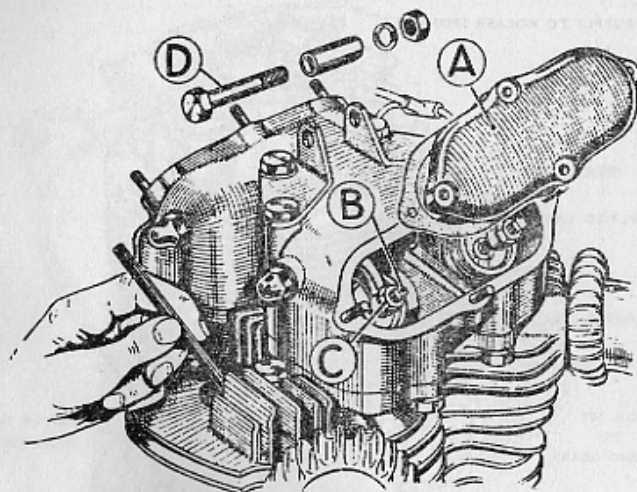

Fig. 4. Tappet Adjustment and Ignition Setting.
Remove the tappet inspection covers (A) Fig. 4, and rotate the engine until one inlet valve is fully open. This is the correct position for checking the other inlet valve clearance.
The adjusters which are of the screwed type, are on top of the rockers immediately above the valves. The clearance is measured by means of feeler gauges inserted between the valve stem and the screw (B) Fig. 4.
the tank, and is held in position by two nuts. The central tank locking bolt can then be removed after the rubber plug in top of the tank is pulled off. Next detach the high tension leads and the sparking plugs. Disconnect the engine steady stay by unscrewing the bolt (D), Fig. 4.
Take off the carburetter. If an air cleaner is fitted, this must be unscrewed from the intake so that the carburetter can be tied back out of the way. The exhaust pipes are a push fit in the head and can be pulled away when the nuts holding the exhaust system to the frame are released. Disconnect the oil feed pipe to the rockers, and remove the rocker box covers (A) Fig. 4. It will be necessary to take out the front stud inside the rear cover before the rocker box can be removed. Finally undo the five bolts, including the one inside the rear cover aperture, also four nuts under the rocker box and then lift off.
Note: The exhaust push rods are longer than the inlet rods. Make sure that the push rods are correctly inserted into the rocker ends, and tighten the rocker box down. This must be done carefully to avoid straining the rocker box due to the action of the valve springs. There are four nuts below the rocker box, and five bolts above the rocker box, one of which is accessible through the rear tappet cover. Remember to replace the engine steady stays Fig. 4, when tightening down the remaining four bolts.
Check the tappet clearances as described on page 14 and replace the covers (A) Fig. 4. Connect the oil feed pipe to the rockers. Clean and adjust the sparking plugs as described on page 15 and then connect the H.T. leads, making sure that each is coupled to its correct plug. Replace the carburetter, and screw on the air cleaner. Replace the exhaust system, check all nuts and bolts and finally replace the petrol tank and petrol pipes.